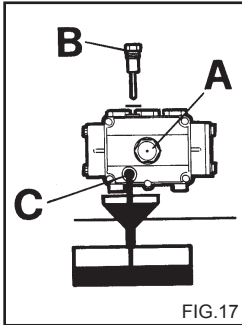

FIG.17
- 1) Unscrew the drain cap situated under the pump (fig. 17 C).
- 2) Unscrew the cap with the dipstick (fig. 17).